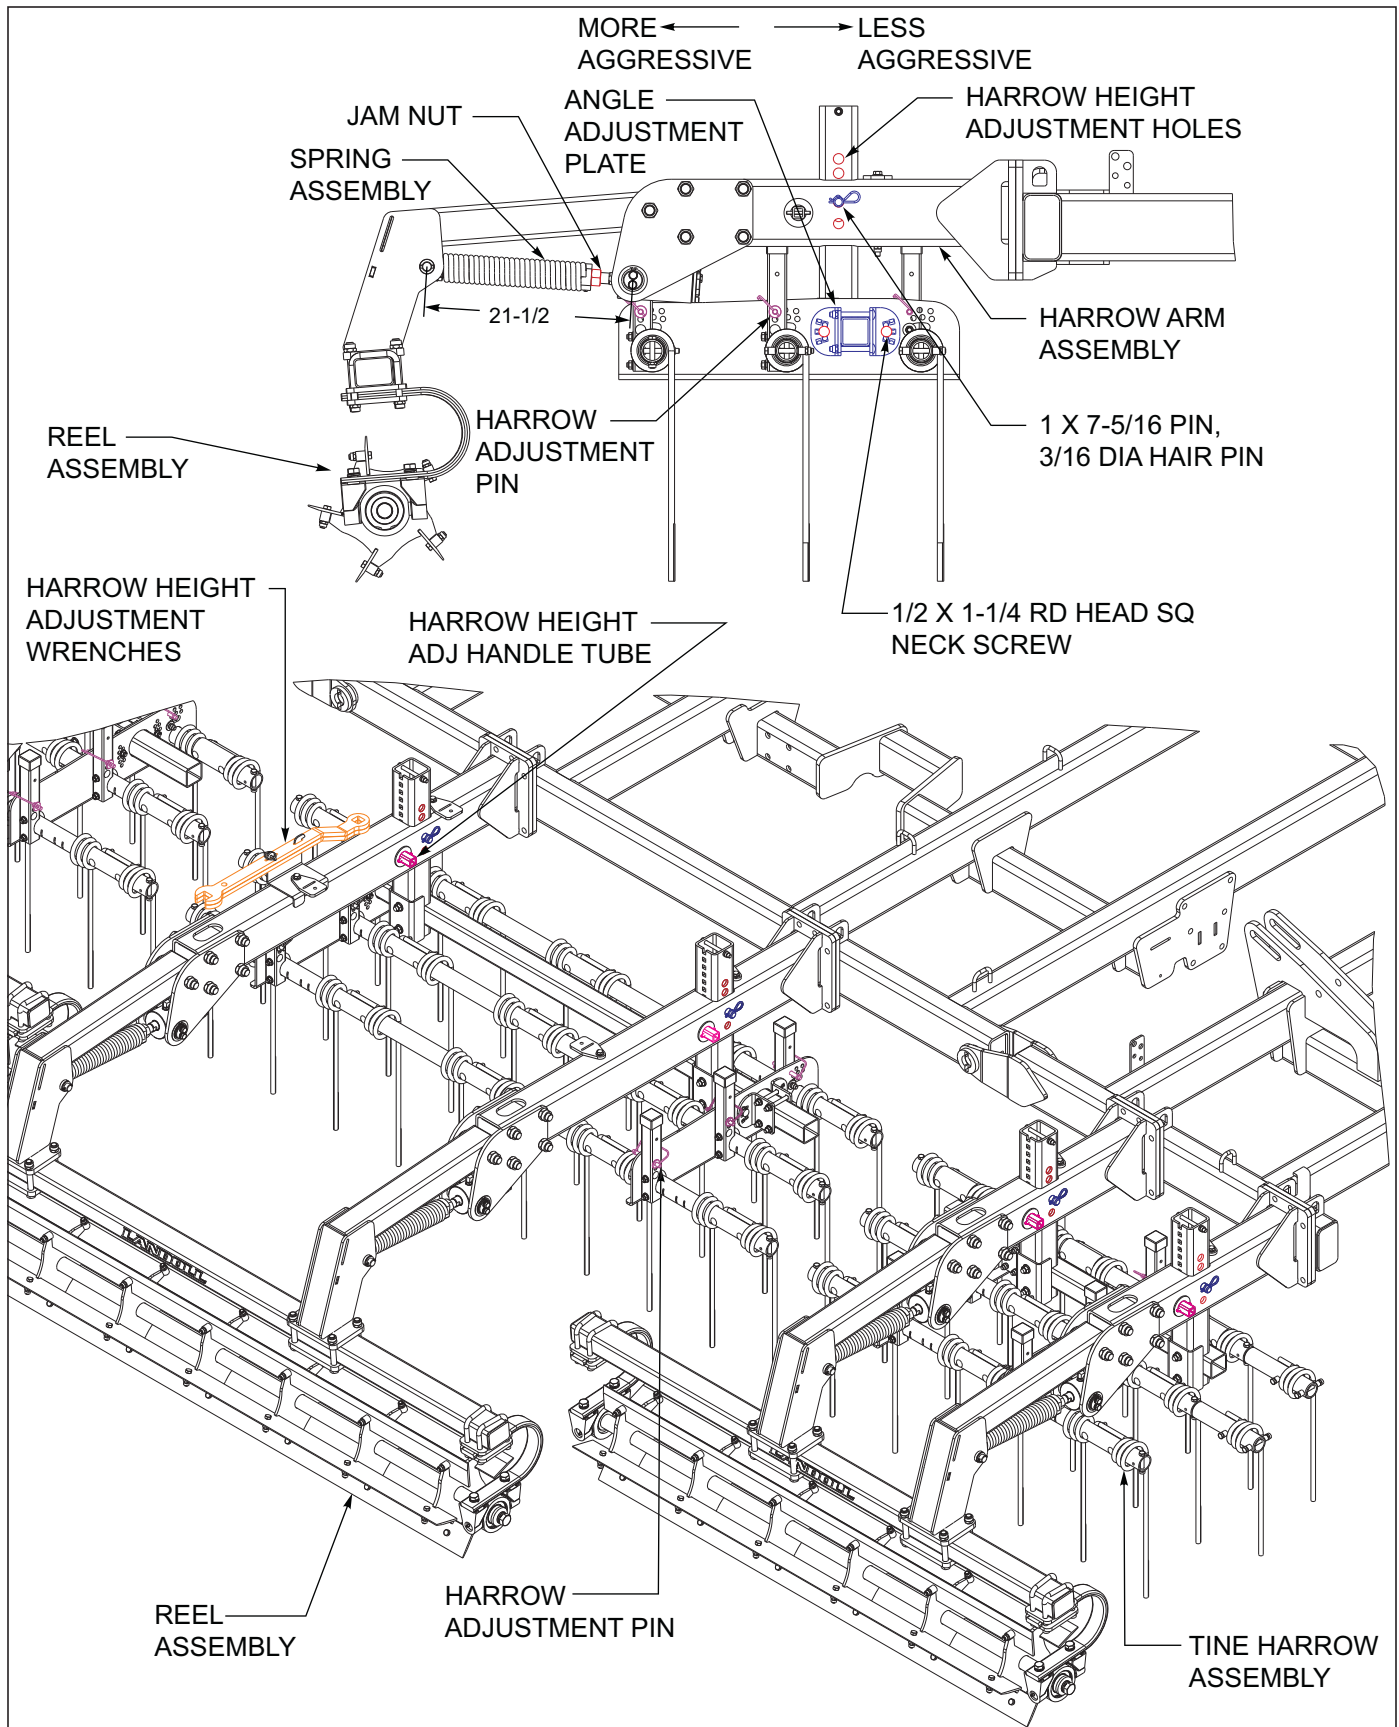

Figure 4-16: 3BCT-Chopper Reel Adjustments
3. The coil tine harrow should run level with the coulter chisel frame. If this needs adjusted, remove the 1/2 x 1-1/4 rd head sq neck screws and rotate tine assembly to level, re-install screws and nuts. When operating the coil tine harrow, a more vertical tine tooth angle will make the harrow more aggressive. A lower/flatter tine angle will make the harrow less aggressive but will handle more residue and wetter conditions. To change the tine angle, raise the harrow off the ground. Remove the harrow pin from both angle adjustment tubes per tine gang bar tube See Figures 4-16. Rotate the angle adjustment tubes forward (less aggressive) or rearward (more aggressive) and reinstall both spring clip pins. Repeat the tine adjustment for each tine gang bar tube and harrow section. Each row can be adjusted as needed, all threeerows do not need to be set at the same tine angle.
6. Reels are set to 21-1/2" from Landoll. To adjust the standard reel height, loosen the locking hex nut against the threaded spring end See Figure 4-16. The hydraulic reel can be raised as needed to prevent plugging.